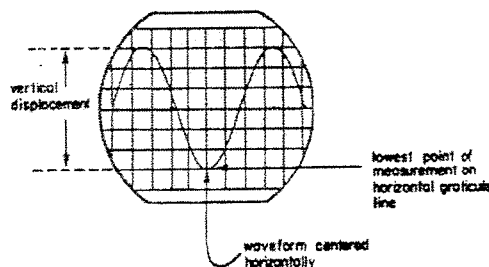

Fig. 6 Peak-to-peak voltage measurement
3. Adjust the V. POSITION control until the lowest point of the waveform falls on one of the horizontal graticule lines, keeping the waveform as close to being centered as possible. (see Fig. 6)
For example, in Fig. 6 if the VOLTS/DIV selector was in the 5mV/DIV position using the X1 probe then the voltage of the waveform peak to peak would be 6 DIV of vertical displacement times 50mV/DIV \times 1 (probe factor)=300mV peak-to-peak.